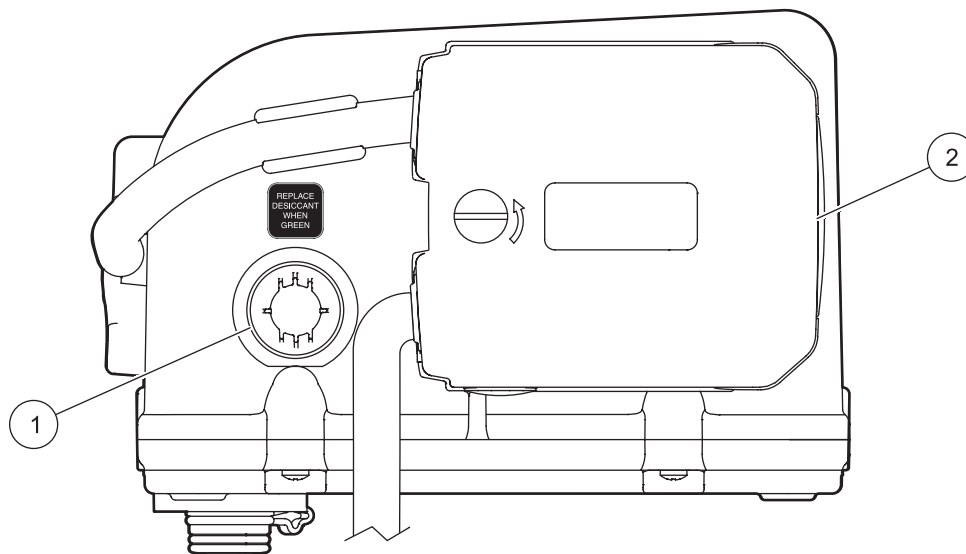

Figure 37 Side view of controller—pump and desiccant
Monitor the desiccant color through the clear plastic window (Figure 37). The color will change from yellow to green when the desiccant is saturated.
1. Unscrew and remove the desiccant holder from the controller (Figure 37).